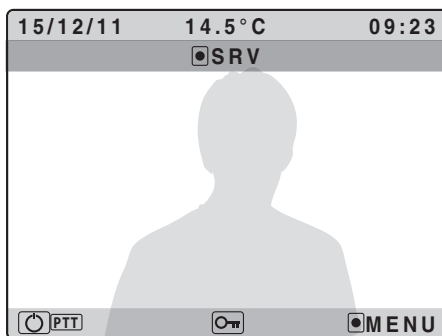

Fig.3c
- To enable the secondary service keep pressed the button until the activation signals (call tone plus message) are received Fig.3c;